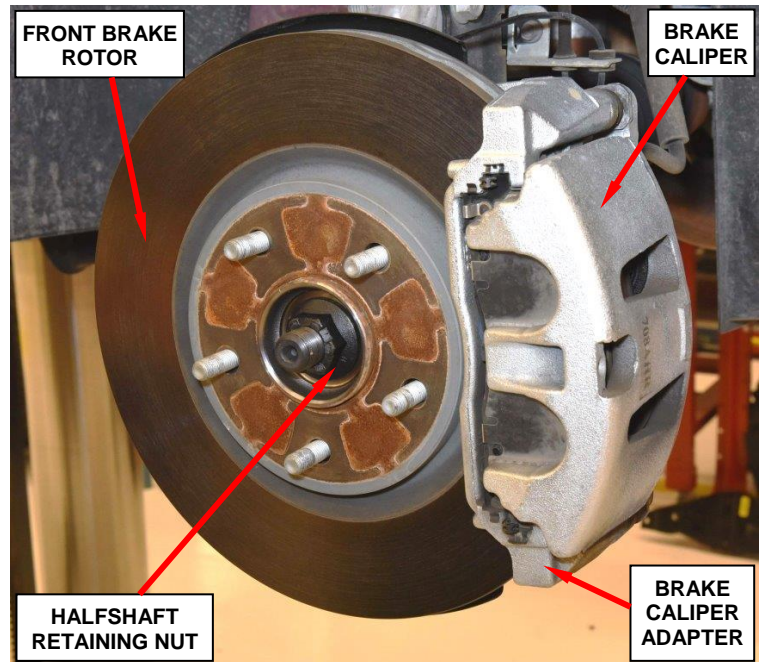

Figure 7 – Halfshaft Retaining Nut
- a. Remove and discard the right and left halfshaft retaining nuts (Figure 7).
- b. Remove and relocate the front brake calipers and adapters as an assembly (Figure 7).